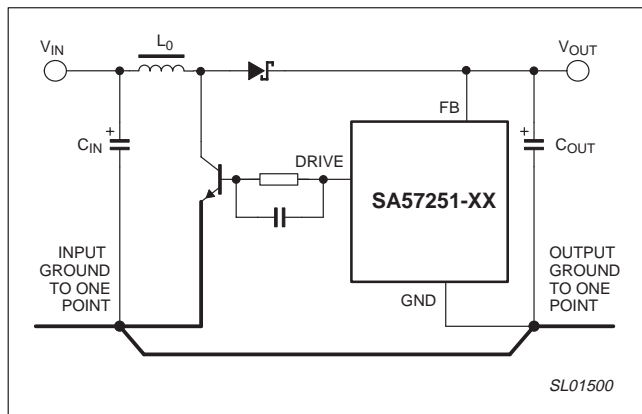

Figure 26. Grounding trace for converter.
The input and output capacitors are the only source or sink of the high frequency currents found in a switching power supply. All connections to the switching power supply from the outside circuits should be made to the input or output capacitor terminals (+ and -). Internally, the layout should adhere to a "one-point" grounding system, as shown in Figure 26.
- Strictly adhere to the one-point wiring practices shown in Figure 26.